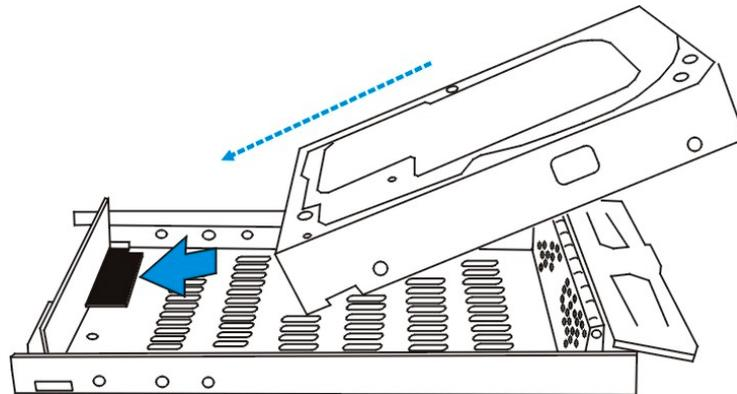

Figure 2-8: Insert the Hard Drive into the Drive Tray
Step 2. Insert the hard drive. Hold the drive at an angle and insert it into the drive tray. (See *Figure 2-8*).